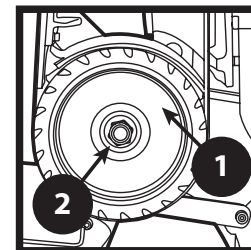

FIGURE 6
2. Pivot machine into vertical position (Figure 6).